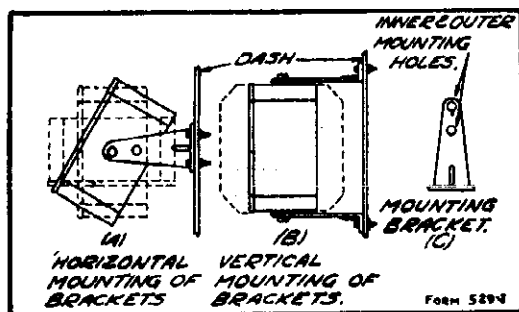

Fig. 5—Method of Mounting Speaker
The speaker-"B" eliminator is mounted on the back of the dash by means of two brackets, as shown in Fig. 5. Usually the space available will govern the location of the speaker and position of it on the mounting brackets. However, the matter of acoustics should be given careful consideration. One of the most desirable positions from the standpoint of
acoustics is that shown by the solid lines in Fig. 5 (A). In this position the sound waves travel in the most direct lines toward the listener. After the
After the position of the speaker is decided on, drill the four $\frac{1}{16}$ " holes required for the bracket mounting bolts. A template for these holes is supplied with the receiver. The holes are arranged in a rectangle. The centers of the holes, the small dimension are $2\frac{3}{8}$ " apart and the long dimension 10" apart. In Fig. 5 is shown how the brackets can be mounted horizontally (A) or vertically (B), and the different positions in which the speaker itself can be placed. There are two holes in each bracket as shown in Fig. 5 (C) which determine the distance of the speaker box from the dash. The grilled portion of the box at the front should face the listener.